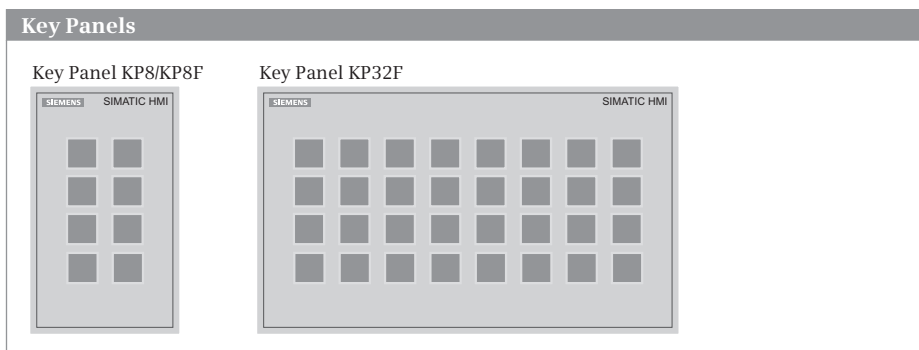

Fig. 7.2 Key Panels KP8/KP8F and KP32F
SIMATIC HMI Key Panels (KP) are the innovative alternative to conventionally wired Key Panels. Supplied pre-assembled and ready for installation, the bus-compatible operator panels are the key to drastically reducing wiring times when compared with conventional methods. Fig. 7.2 provides a graphic depiction of the Key Panels.